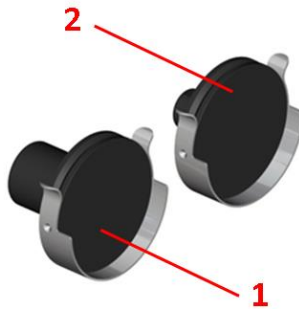
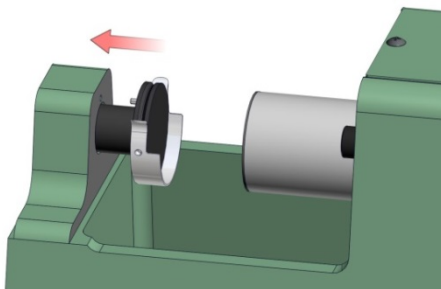

Figure 5.1.1
Figure 5.1.2
1. The Universal Strength Machine, Model PFG, includes the required attachments to measure the compression strength of molding sand. The attachments required to perform this test are shown in Figure 5.1.1.
2. Install the two Compression Strength Attachments. First, align each of the pins located on the back side of the clamps with the holes located on the Base and Hydraulic Piston of the Universal Strength Machine. Then, gently slide the 24 mm attachment (Item 1, Figure 5.1.1) and 15 mm attachment (Item 2, Figure 5.1.1) into the Base and Hydraulic Piston, respectively. See Figure 5.1.2.